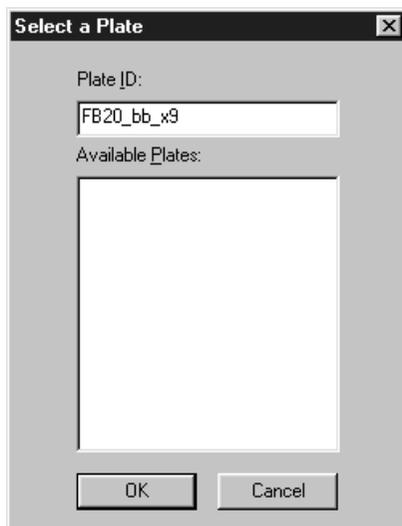

Figure 4-10. The Select a Plate window.
1. In the Instrument Control window, with the Inject Samples and Run protocol selected, click **Start**. The Select a Plate window appears (figure 4-10).